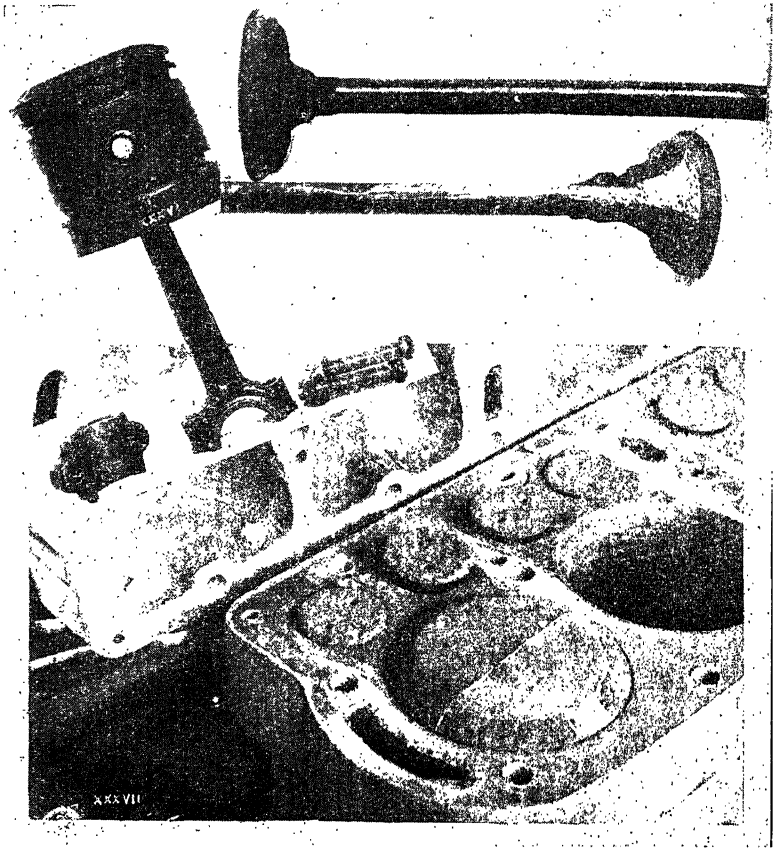
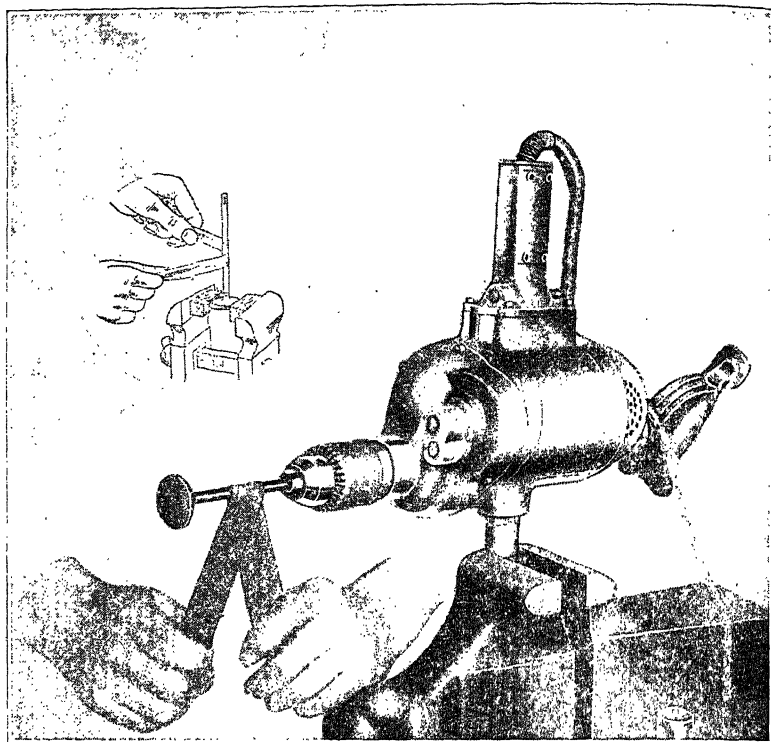

Fig. 11. Carbon Accumulation on Valves, Cylinders, and Pistons
Fig. 16. Cleaning Valve Stems with Electric Drill and Emery Cloth
If an engine is pumping oil, there is only one way to dispose of the surplus oil and that is by burning it. Burning it leaves carbon. If not burned, it will be in a moist and gummed state. If the engine is firing satisfactorily, the carbon will be dry and hard. A condition similar to the latter was evidenced in the engine combustion chamber as illustrated in Fig. 11. The carbon in this case was approximately  $\frac{1}{8}$ -inch thick. The piston is illustrated with part of the carbon removed and showing the depth of it.
Carbon also collects within the valve ports and under the valve heads, as shown in Fig. 11, and in the exhaust manifold and the muffler. In the latter case the engine may operate very erratically and unless the service man is one of considerable experience, he will not think to look at this point to learn the cause of unsatisfactory operation. When carbon collects within the exhaust manifold or muffler to the extent that the free exhaust of the burned gases is interfered with, the power of the engine is materially lessened. Many cases are on record where an engine will actually stop from this accumulation, and mechanics have won the undying gratitude of the car owner when they were keen enough to discover this and restore the car to its normal power. Another point which is seldom thought of is the inside of the piston. This is more likely to happen in cast iron than in aluminum pistons since aluminum pistons conduct the heat away more readily. However, this is a point to be taken into consideration when rebuilding an engine. A piston which was cut in two showed the amount of carbon which had collected was  $\frac{1}{4}$ -inch thick under the piston head. The piston was weighed before cleaning and after cleaning. Exactly two ounces of carbon were removed from it. It will be understood that unless a similar amount of carbon had collected on each piston, the engine would
**Cleaning Valves.** After the valves have been removed, the first thing to do is to take them to the bench, drill press, or lathe and clean them. If they are to be cleaned by hand, the valve head should be gripped as shown in the inset in Fig. 16. Do not grip the valve head with the jaws of the vise but protect the head by means of two blocks of soft wood. The valve stem may then be polished by means of a strip of emery cloth. This may be purchased in strips of 50 yards to the roll or may be torn from a sheet. The carbon under the valve head, such as the accumulation which appears in Fig. 11, should be
scratched away by means of a pocket knife. The final job of polishing should not be circular, as shown in the inset of Fig. 16, but should be with the axis or length of the valve stem. Experience has shown that a few strokes with the emery cloth, up and down the valve stem, will remove the cross scratches produced by the circular motion and leave the valve stem in better condition for long service, both as to condition and accumulation of carbon. When the electric drill is used, the valve is gripped as shown in Fig. 16 and polished as it is rotated. Here again the emery strip is used. The same method may be used with reference to the drill press or lathe, it being only a